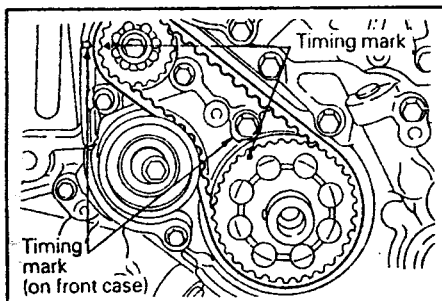

Fig. 15.25. — Details of fitting the timing gearwheel for the balance shaft.
- Place the crankshaft timing wheel (5) over the end of the crankshaft. Align the timing marks of all timing wheels as shown in Fig. 15.25.
- Check that the timing marks on the sprocket and on the front housing are still aligned, as shown in Fig. 15.25 and push with the forefinger against the timing belt